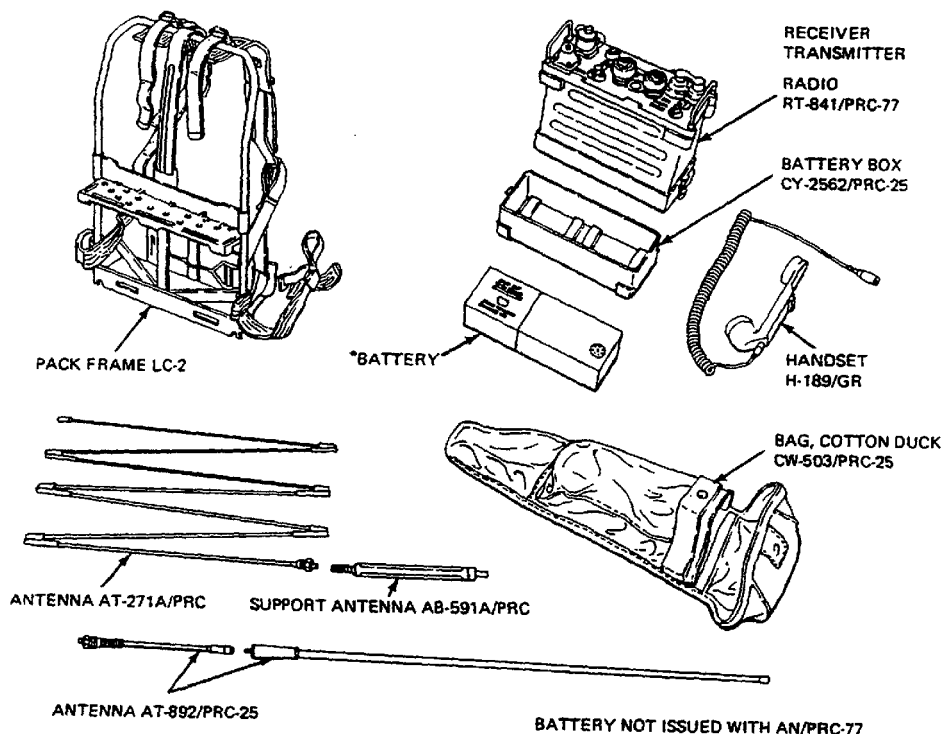

Figure D-3. Radio Set AN/PRC-77 and Components
c. FM radio sets with which the AN/PRC-77 can communicate are listed in paragraph 3-11 (Figure D-3).
d. The AN/PRC-77 can also be used in conjunction with other equipment, (1) thru (7) below.
(1) Antenna Equipment RC-292 (TM 11-5820-348-15) and Antenna Group OE-254/GRC (TM 12-5985-357-13) can be used in place of the whip antennas to extend the communication range of the AN/PRC-77 (paragraph 6-3).
(2) The AN/PRC-77 can be connected to other fm radio sets for radio relay use by means of the cable in Retransmission Cable Kit MK-456/GRC (TM 11-5995-202-15 and paragraph 6-1). Such radios can be the AN/PRC-77, AN/PRC-25 (TM 11-5820-398-12); the vehicular versions of these radios: Radio Sets AN/VRC-53, AN/VRC-64, AN/GRC-125, and AN/GRC-160 (TM 11-5820-498-12); and the AN/VRC-12 series radios (TM 11-5820-401-10 and TM 11-5820-401-20).
(3) Remote control of the AN/PRC-77 can be provided by Radio Set Oak Control Group AN/GRA-39(*) (paragraph 6-7a) and Radio Set Control AN/GRA-6 (paragraph 6-9a).
(4) Radio/wire integration (RWI) operation with the AN/PRC-77 and remote telephone facilities can be provided by Radio Set Control AN/GSA-7 with Oscillator 0-574/GRA (paragraph 6-8). The AN/GRA-39(*) (paragraph 6-7b) and AN/GRA-6 (paragraph 6-9b) can also be used with the AN/PRC-77 for RWI operation.
(5) The AN/PRC-77 can be used with Antenna, Homing Loop AT-784/PRC (paragraph 6-4) for detection and location of homing beacons or other fm radios.
(6) The AN/PRC-77 can be used with Antenna AT-984A/G (paragraph 6-5), a long-wire, multiple wavelength antenna to extend the transmission and reception ranges.
b. Minor Components (Figure D-3).
(1) Antenna AT-892/PRC-25. The AT-892/PRC-25 is a one-section, 3-foot long whip antenna. A spring at its base allows for positioning of the antenna to keep it in a vertical position, regardless of the position of the RT-841/PRC-77. This antenna is used for general short-range service and, because of its steel tape construction, can be folded into a small space.